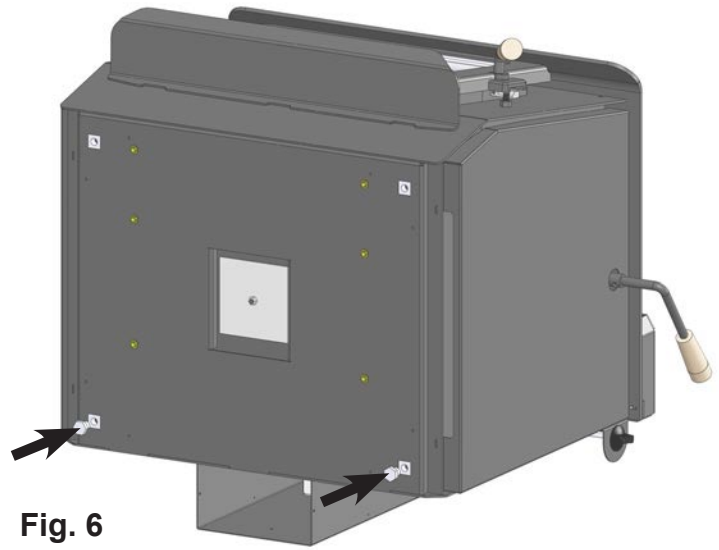

Fig. 6
2. There are two 1/2" x 1/2" long bolts supplied with the classic base kit, thread them as shown, leave approximately a 1/4" of thread showing. **(Fig. 6)**